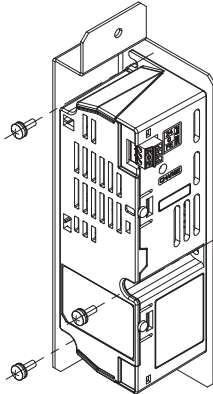

Figure 25 Securing the Option to the Bracket
6. Use a Phillips screwdriver (M4) and the screws included in the option package to fasten the option to the bracket in the three locations shown in **Figure 25**.